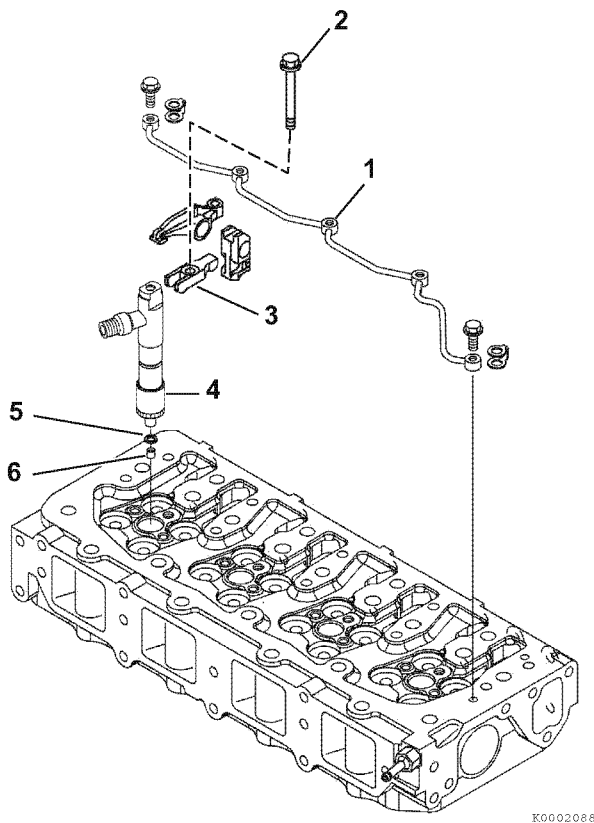

Figure 7-62
1. Reinsert a new nozzle seat (6, **Figure 7-62**) and nozzle protector (5, **Figure 7-62**) in the cylinder head for each injector.
3. Reinsert each fuel injector (4, **Figure 7-62**) into the cylinder head.
4. Reinstall the fuel injector retainers (3, **Figure 7-62**) and torque the retaining bolts (2, **Figure 7-62**) to specification.